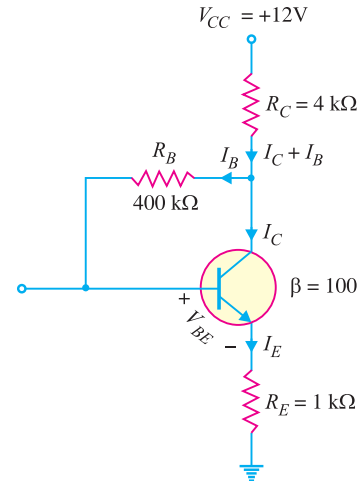

Fig. 9.22
**Example 9.17.** Find the Q-point values ( $I_C$  and  $V_{CE}$ ) for the collector feedback bias circuit shown in Fig. 9.22.
**Solution.** Fig. 9.22 shows the currents in the three resistors ( $R_C$ ,  $R_B$  and  $R_E$ ) in the circuit. By following the path through  $V_{CC}$ ,  $R_C$ ,  $R_B$ ,  $V_{BE}$  and  $R_E$  and applying Kirchhoff's voltage law, we have,